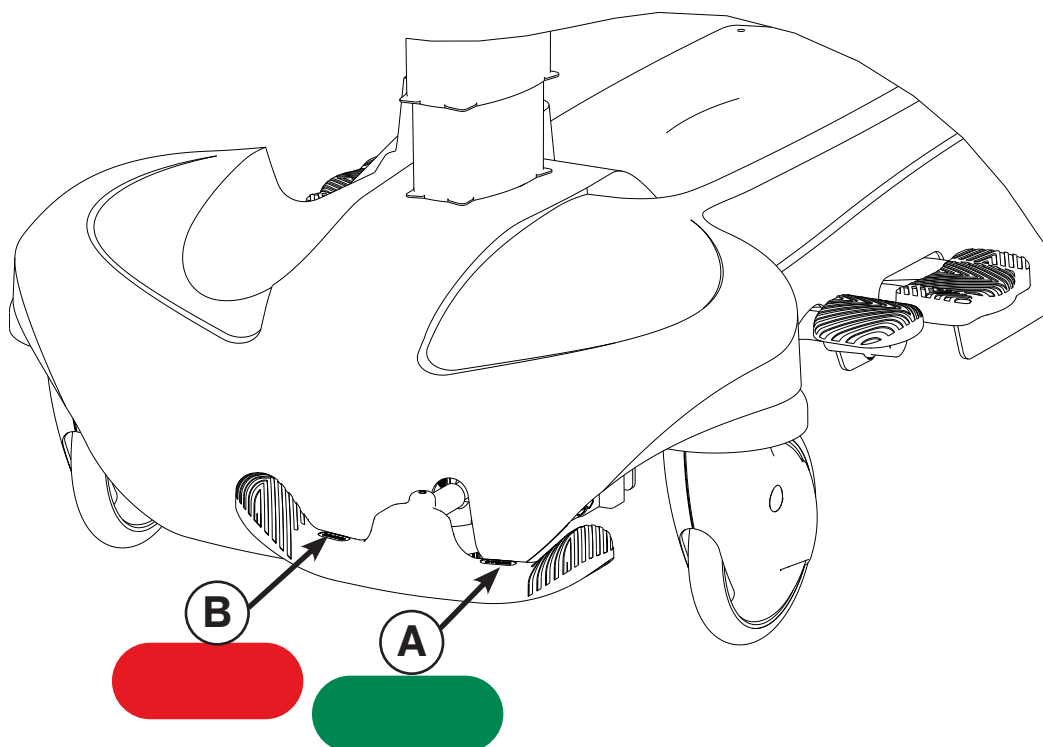

Figure 4: Fifth Wheel (Head End View)
To operate the fifth wheel, push the steer (green) side (A) of any brake/steer pedal to the lowest position as shown in Figure 4.
To disengage the fifth wheel, push the brake (red) side (B) of any brake/steer pedal to the neutral position as shown in Figure 4.